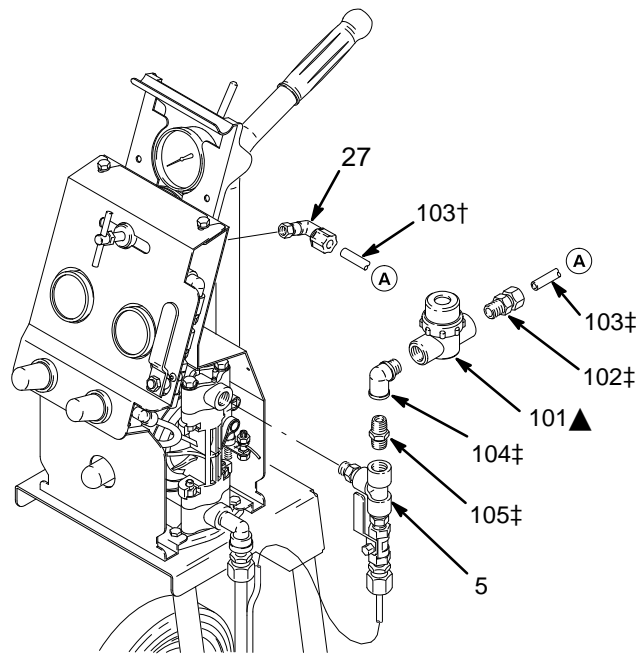

Fig. 4
The Fluid Filter Kit, listed above, can be installed to filter fluid drawn by the suction tube after it comes out of the pump. Install the Fluid Filter Kit as follows (see Fig. 4):
1. Apply thread sealant (specified in Fig. 4) to all male threads in this kit.
2. Remove the male connector (6) and the PTFE tube (18) that connect to the top of the tee (5). See the **Parts** drawing on page 11.
3. Thread the nipple (105) into the female threads of the elbow (104).
4. Thread the nipple (105), with the elbow (104) attached to it, into the tee (5).
5. Thread the fluid filter (101) onto the male threads of the elbow (104).
6. Thread the male connector (102) into the fluid filter (101).
7. Turn the fluid filter/male connector assembly towards the elbow (27). This makes connecting the tube (103) in step 8 easier.
8. Cut the PTFE tube (103) to the proper length, and install it to run from the male connector (102) to the elbow (27).